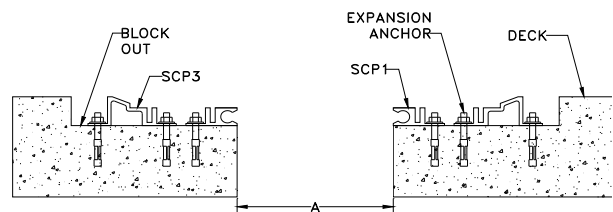

Figure 6
STEP 2. Place the SCP1s and SCP3s back into their installed positions, and using the fasteners provided by the factory, attach them to the concrete (Figure 6). Ensure that they are plumb, level, and properly aligned.